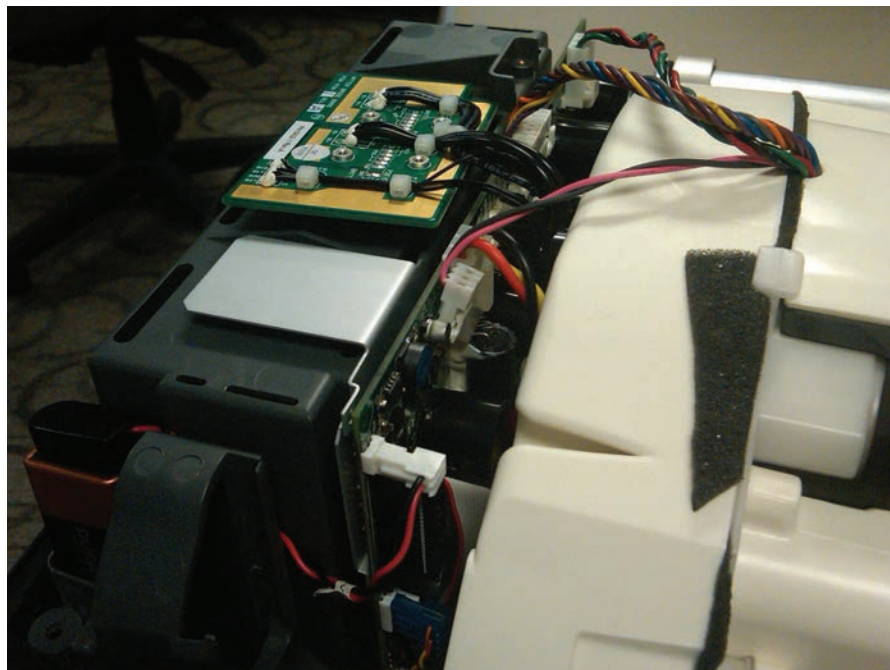

Fig 52: Routing Wires
1.8 Position the Power Manager PCB (PN: SP5932-4-SEQ) 1" out of the case as shown in Fig 52. Gently push the Compressor Box away from the Power Manager pcb by 1/8". Connect the 2 wire harnesses (Ext Power & ATF harness) and the Control Board Ribbon Cable.